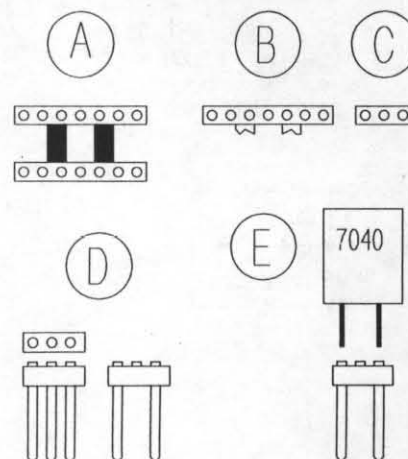

Figure 3
How? As shown in Figure 3, use one of the machined sockets (A), cut it in half (B), then trim it until there are 3 pins left (C). Use this as the crystal socket! The pin spacing is .1" and the crystal (in an HC49 holder) has pins with .2" spacing. So all that you have to do is clip the middle pin of the 3 on the socket (D), and voila, an instant crystal socket (E)!